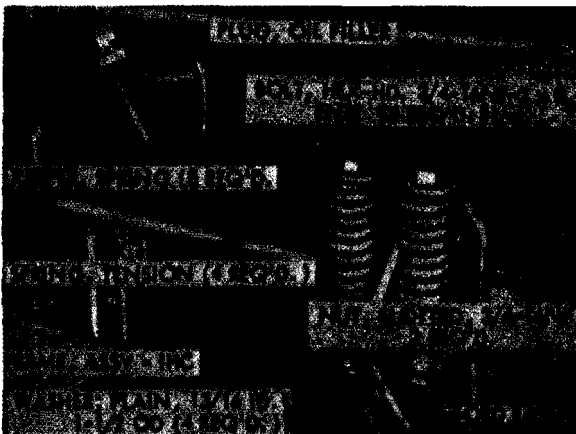

Figure 70. Subframe to frame front disconnect points.
- (a) Disconnect control relay cross-shaft rod (P) at relay lever (N).
- (b) Disconnect power takeoff relay-lever rod (G) at power takeoff relay lever (L).
- (c) Loosen setscrew and disconnect drive shaft assembly (C) at hydraulic pump (H).
- (2) *Disconnect subframe from frame assembly (fig. 70).*
- (b) Remove two cotter pins, slotted nuts (fig. 70), plain washers, keepers, tension springs, and hex-head bolts at left and right front mounting brackets.
- (1) Position mounting sill on each frame side rail.
- (2) Lift hoist assembly in position on frame side rails.
- (3) Aline the front mounting bracket holes. Assemble the four hex-head bolts, eight spring keepers (fig. 70), and four tension springs. Position hex-head bolts with spring and keepers assembled through left and right front mounting brackets. Install plain washers and slotted nuts on left and right hex-head bolts. Tighten the slotted nuts and compress springs until cotter pin hole in bolt is visible at slotted nut. Lock slotted nuts with the cotter pins.
- (4) Install the four capscrews (fig. 70), lockwashers, and safety nuts at each